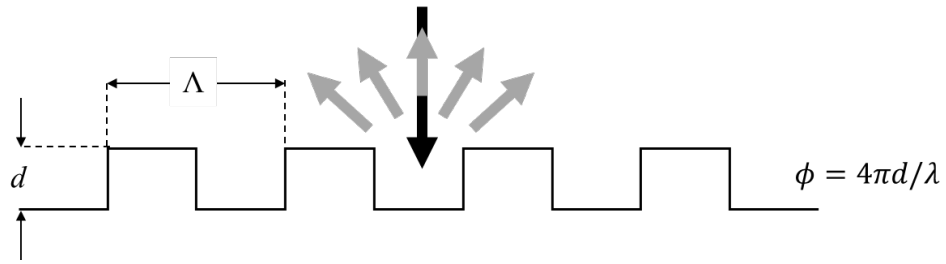

Figure 1: Schematic depictions of the reflective binary diffraction grating with tunable grating depth
3. Consider the 1D reflective binary diffraction grating shown below in Figure 1. We have briefly covered in class what happens to the diffraction profile if the grating depth is tuned; here we will try to reach the same results through simulations. Use the following parameters in your simulations: